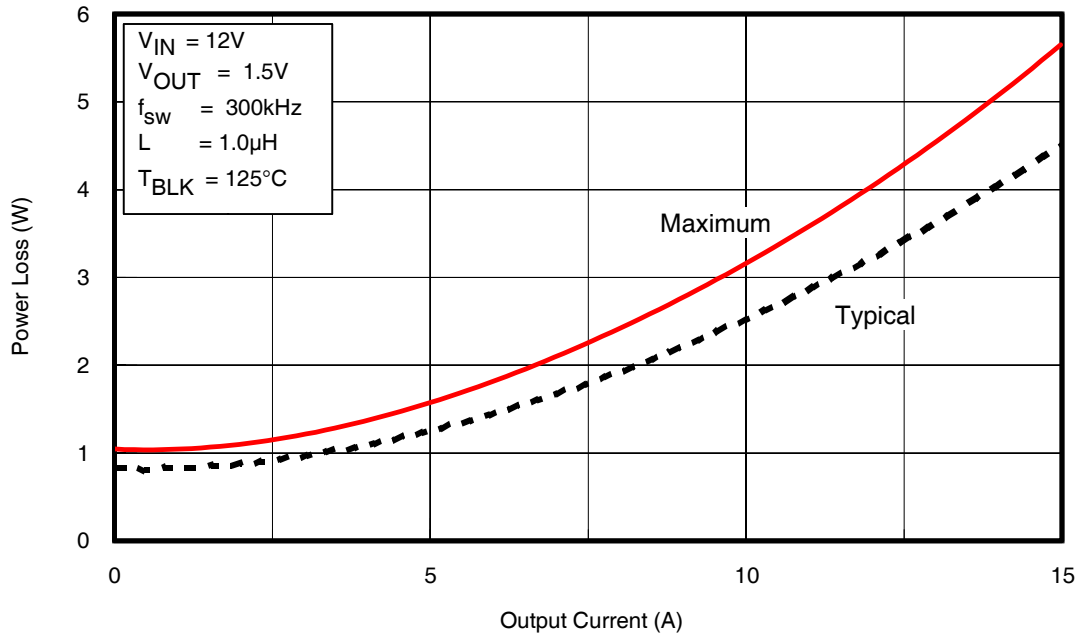
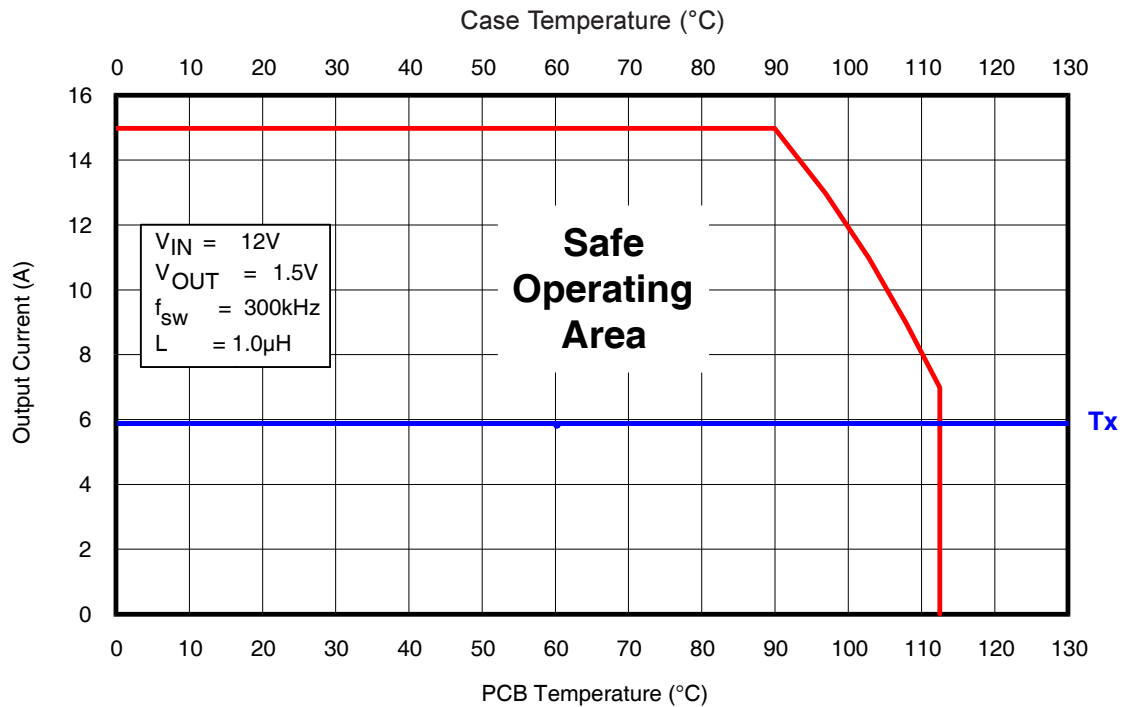
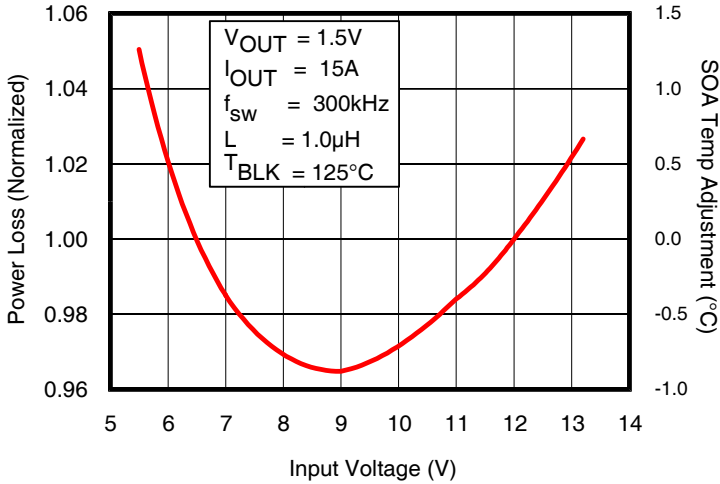

Fig. 2: Power Loss vs. Current
Fig. 3: Safe Operating Area (SOA) vs. T_{PCB} & T_{CASE}
Fig. 4: Normalized Power Loss vs. V_{IN}
To make adjustments to the power loss curves in Fig. 2, multiply the normalized value obtained from the curves in Figs. 4, 5, 6 or 7 by the value indicated on the power loss curve in Fig. 2. Then if multiple adjustments are required, multiply all of the normalized values together, then multiply that product by the value indicated on the power loss curve in Fig. 2. The resulting product is the final power loss based on all factors. See example no. 1.
To make adjustments to the SOA curve in Fig. 3, determine your maximum PCB Temp & Case Temp at the maximum operating current of each iP1203PbF. Then, add the correction temperature from the normalized curves in Figs. 4, 5, 6 or 7 to the T_X axis intercept (see procedure no. 2 above) in Fig. 3. When multiple adjustments are required, add all of the temperatures together, then add the sum to the T_X axis intercept in Fig. 3. See example no. 2.
- (Fig. 2) Maximum power loss = 4.1W
- (Fig. 4) Normalized power loss for input voltage \approx 1.025
- Output1 (Fig. 4) Normalized SOA Temperature for input voltage $\approx +0.7^{\circ}\text{C}$